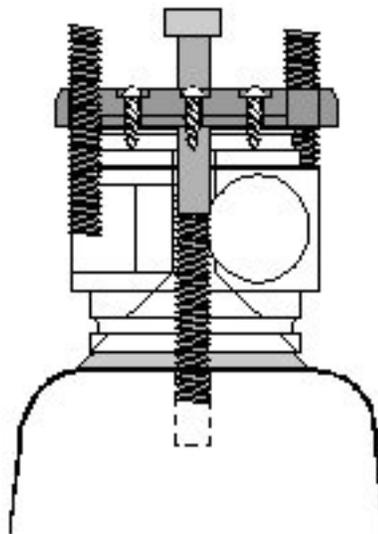

Figure 5.
- a. Utilizing the 5/16" x 3" Anchor Bolt and the Fabrication Kit (FAB-946), attach the ALPSLock body to the Alignment Cone. (See figure 5)